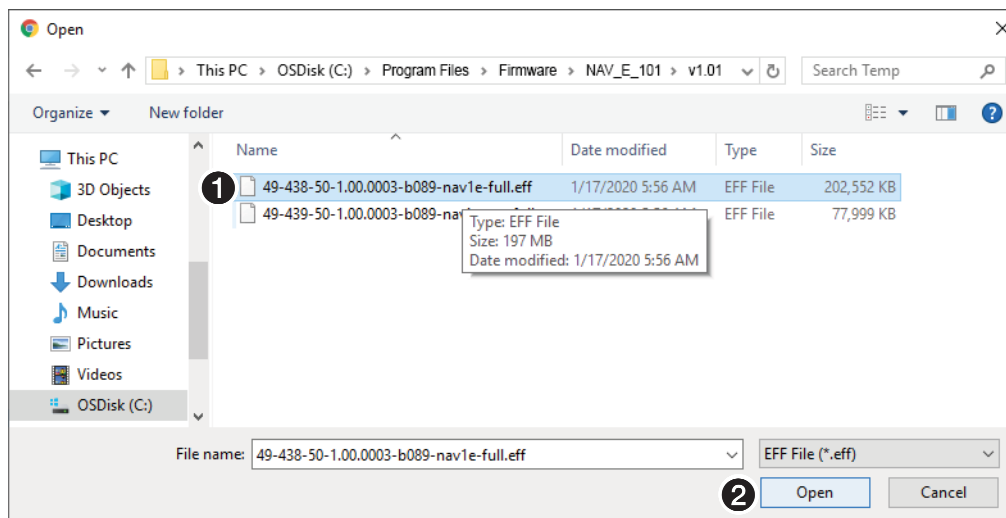

Figure 32. Open Dialog Box
2. Click **Select File** (❷). An Open dialog box opens (see figure 32).
3. Navigate to the folder where you saved the firmware upgrade file (see figure 32, ❶). Select the file.